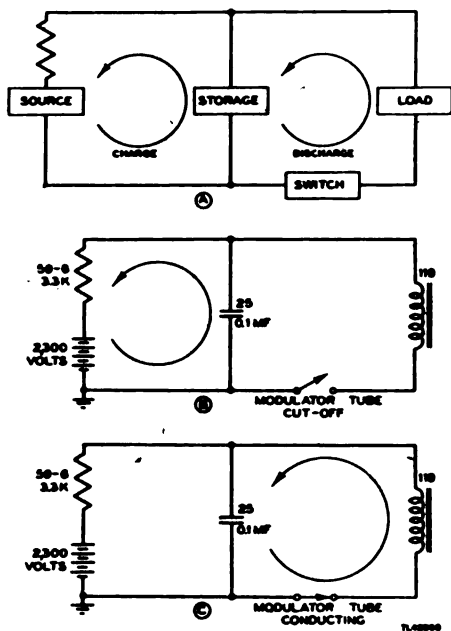

Figure 12. Modulator, equivalent circuit.
**c. Operation.** The modulator performs the function of a switch which discharges a storage capacitor through the r-f oscillator tubes. Figure 12-A is a block diagram of the modulator circuit. Figure 12-B and -C is a simplified schematic of the modulator circuit of both phases of operation.